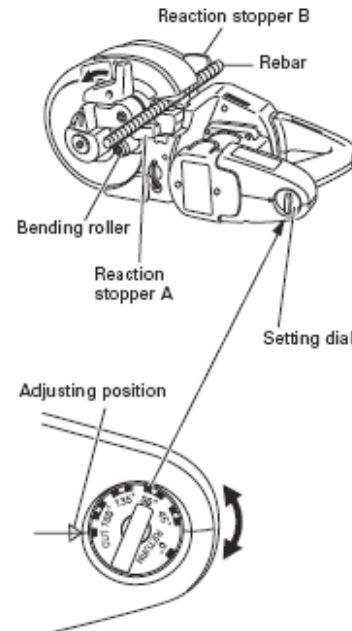

Fig. 2
1. Cutting (Fig. 2)
- (1) Turn the lever in the direction of the arrow mark and open the cover.
- (2) Set the setting dial at the "cut" position. (Turn the setting dial all the way clockwise.) (Fig. 2)
- (3) Set the unit in the position shown in Fig. 2.
- (4) Set the rebar to be cut on the lower cutter.
- (5) When the rebar is set, make sure that either the reaction stopper A or B is hitched to the rebar.
- (6) Pull the switch trigger and cut the rebar.